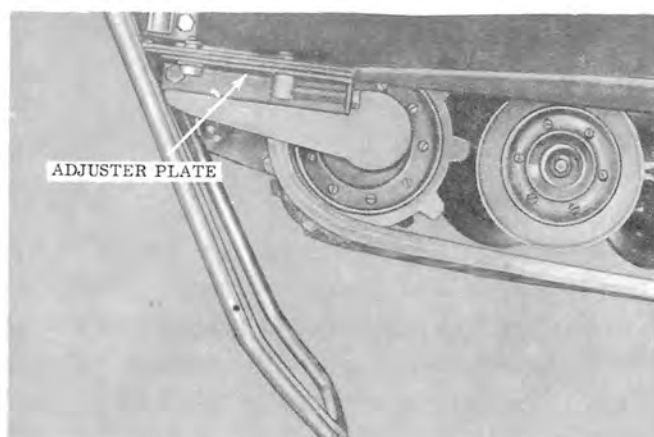

Figure 4
9. Release track tension by removing both right hand and left hand adjuster plates (See Figure 4). Remove all fasteners holding adjuster plates to the frame.